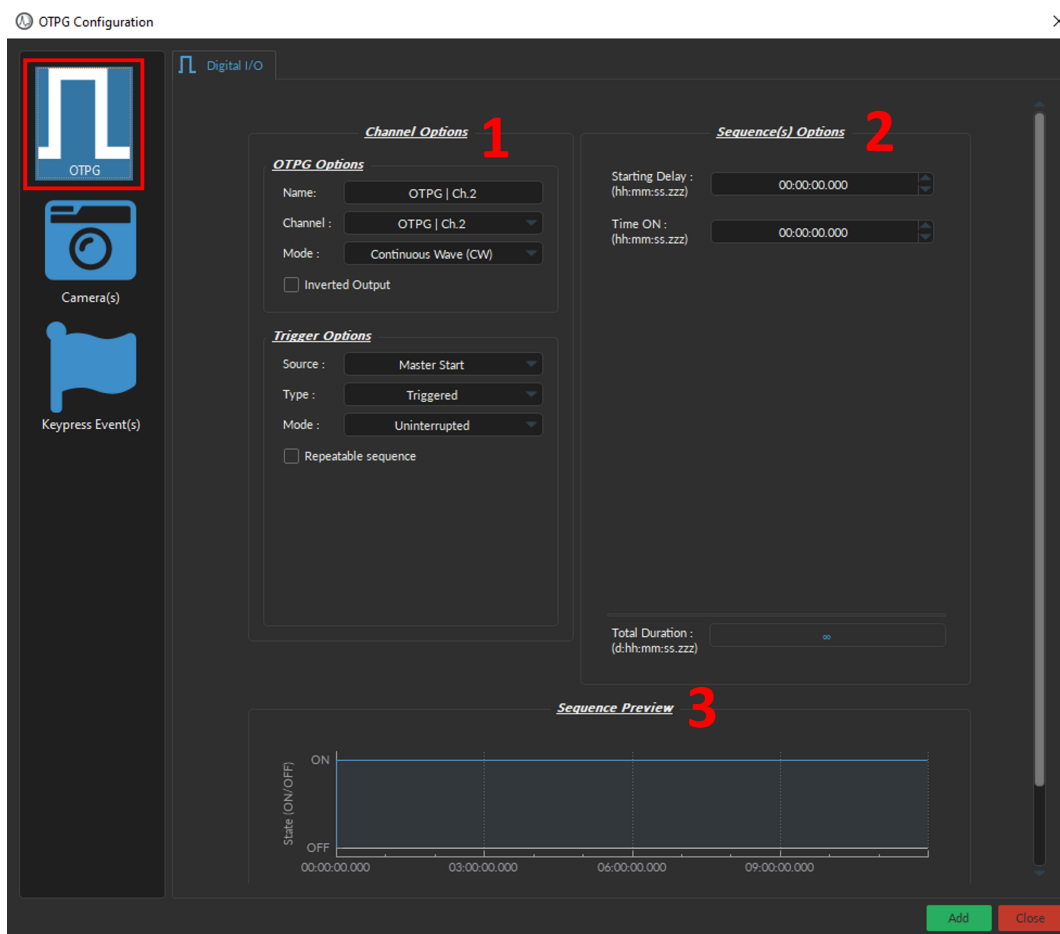

Figure 8.10: *OTPG Configuration Window, Digital I/O*
The *OTPG configuration* window for the **Digital I/O** Channel is divided into three sections (Fig. 8.10): (1) the **Channel Options** (Section 8.2.3.1), (2) the **Sequence Options** & (3) **Preview** (both treated in Section 8.2.3.2).